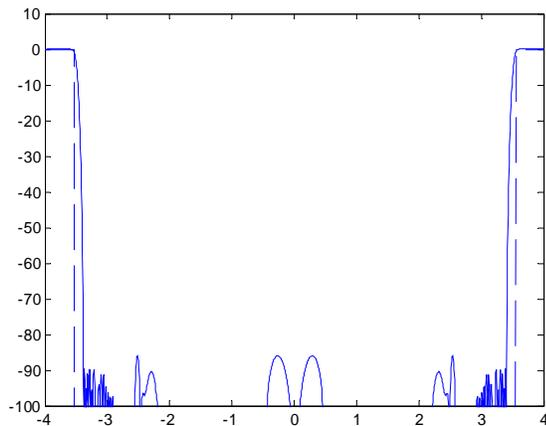
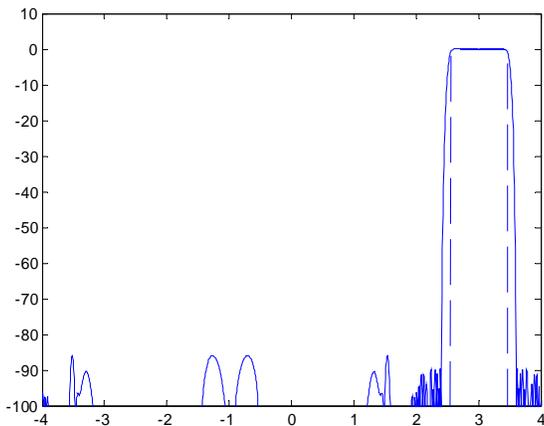

Figure 40. Interpolation/Modulation Combination of  $-4f_{DAC}/8$  Filter in Odd Mode
Figure 46. Interpolation/Modulation Combination of  $3f_{DAC}/8$  Filter in Odd Mode
*Figure 3*, *Figure 4* and *Figure 5* show the low pass response of the digital filters with no modulation used. By turning on the modulation feature, the response of the digital filters can be tuned to any Nyquist zone within the DAC bandwidth. As an example, *Figure 40* to *Figure 46* show the odd mode filter responses (refer to *Table 13* for odd/even mode filter responses).
Even mode filter responses allow the passband to be centered around  $\pm 0.5$ ,  $\pm 1.5$ ,  $\pm 2.5$  and  $\pm 3.5 F_{DATA}$ . Switching from an odd mode response to an even mode filter response does not modulate the signal. Instead, the pass band is simply shifted. As an example, picture the response of Figure 46, and assume the signal in band is a complex signal over the bandwidth  $3.2$  to  $3.3 \times F_{DATA}$ . If the even mode filter response is then selected, the pass band will now be centered at  $3.5 \times F_{DATA}$ . However, the signal will still remain at the same place in the spectrum. The even/odd mode capability allows the passband to be placed anywhere in the DAC Nyquist bandwidth.